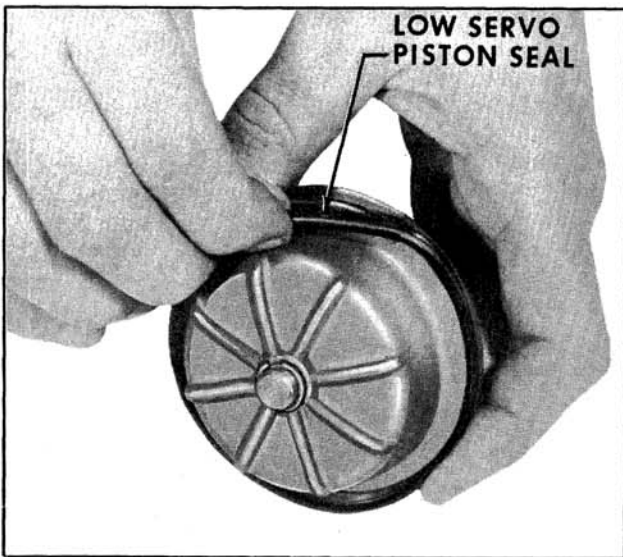

Fig. 6-402 Removing and Installing Low Servo Piston Seal
1. Remove low servo piston seal. (Fig. 6-402)
Install low servo piston seal. (Fig. 6-402)